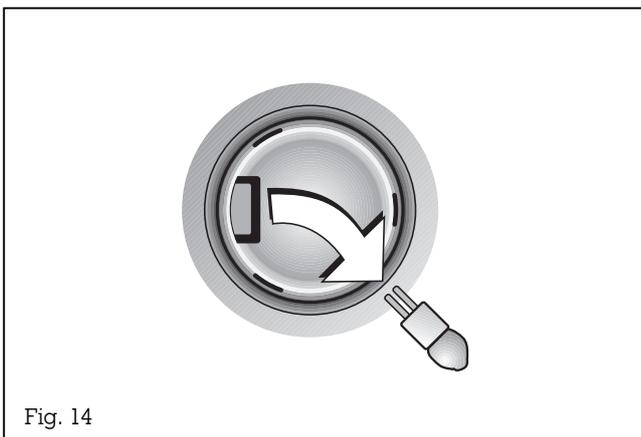

Fig. 14
– Pull out the lamp (Fig. 14).